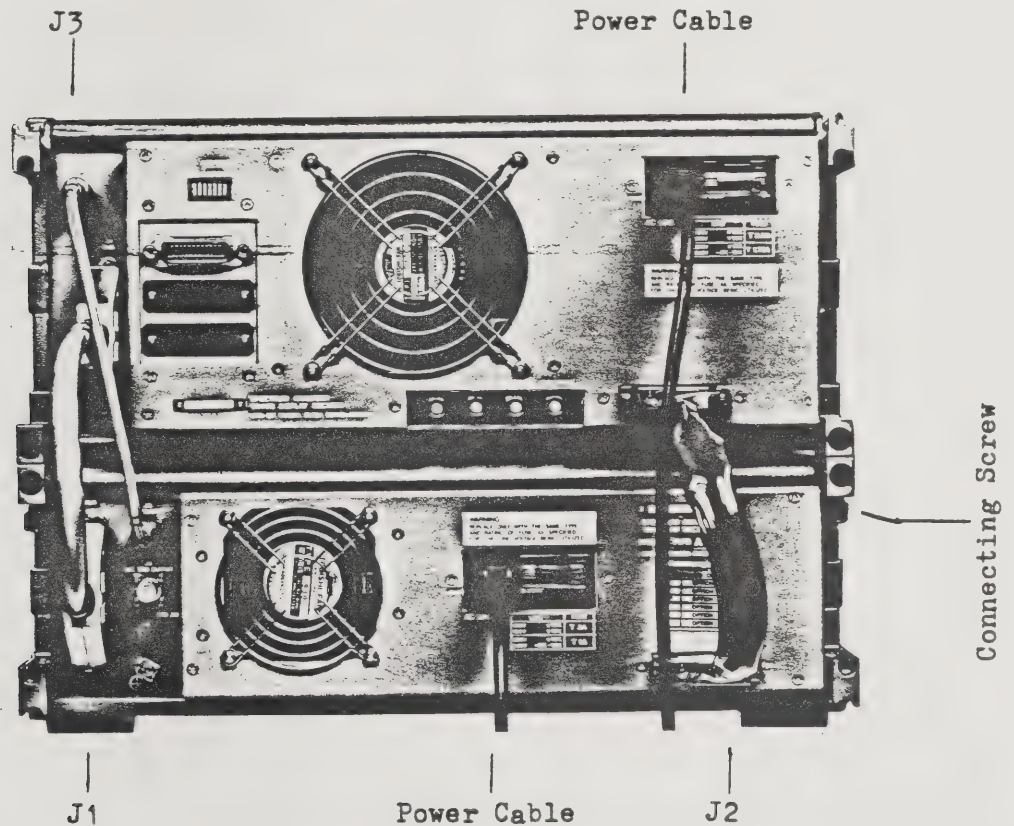

Fig. 2-2 Power and signal connections on the rear panels
- (1) Make sure that the POWER push switch on the RF section is in the STANDBY (out) position.
- (2) An AC LINE connector is provided on the rear panel of each section. Plug the female side of the supplied power cables into each of these AC LINE connectors. (See Figure 2-2.)